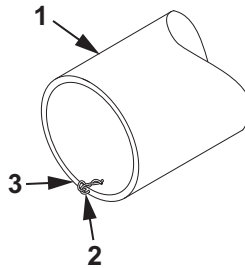

Figure 2. 4 In. Discharge Hose Repair.
1. Obtain the correct length of replacement hose (Figure 2, Item 1).
2. Identify the ground wire (Figure 2, Item 2) in each end of the hose (Figure 2, Item 1).
3. Using needle nose pliers, pull the ground wire (Figure 2, Item 2) approximately 1/2 in. out of the hose (Figure 2, item 1) so the ground wire (Figure 2, Item 2) is loose.
4. Using needle nose pliers, cut a piece of copper wire (Figure 2, Item 3) approximately 1-1/2 inches long.
5. Insert the piece of copper wire (Figure 2, Item 3) into the hose (Figure 2, Item 1) approximately 1/2 in. away from the ground wire (Figure 2, Item 2).
6. Using needle nose pliers, wrap the copper wire (Figure 2, Item 3) and ground wire (Figure 2, Item 2) together, forming a pigtail.
7. Using needle nose pliers, carefully bend the ground wire (Figure 2, Item 2) inside the hose (Figure 2, Item 1).